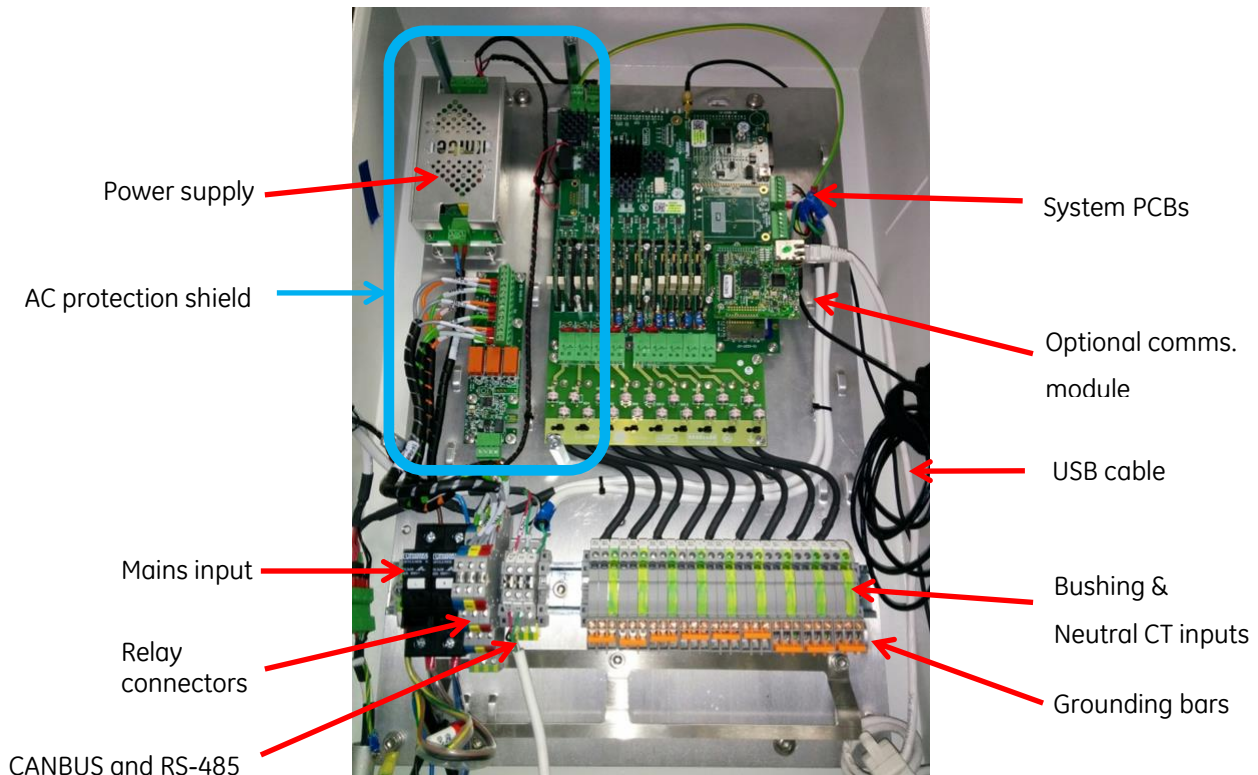

Figure 3 Intellix™ BMT 330 Cabinet Internal Layout
- The mini USB socket on the motherboard has an extension cable that is led to the bottom right hand corner of the cabinet (see Figure 3). Connect your laptop to this USB extension cable.